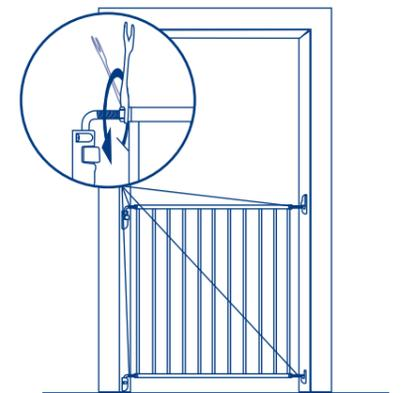

Fig. 7
- Untighten the nut on each of the latch bolt and hinge bolts. Unscrew the latch bolts and hinge bolts so that they are the same distance from the frame. (Fig. 7)